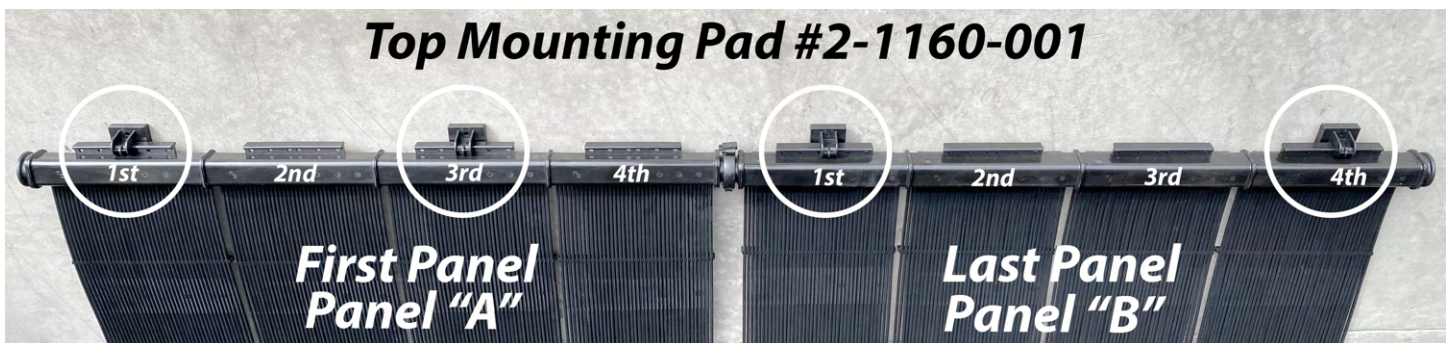

Fig. 17.1
2. Lay the first two panels so that the top edge of the top header is located at the chalk line. Referencing Fig. 17.1, slide a top mounting pad onto the 1st rail of the top header of the first panel (Panel "A"), and another top mounting pad onto the 3rd mounting rail of the same panel (Panel "A"). The mounting pad position of Panel "A" will continue for the rest of the row, until you get to the last panel (Panel "B"). For the last panel in the row (Panel "B"), place a top mounting pad at the 1st rail, and the second mounting pad on the 4th rail, so that each end of the row is secured at the very outside edge.
4. The last panel (reference Panel "B" in Fig. 17.1) should be secured with a top mounting pad on the 1st rail and the second mounting pad on the 4th rail. This secures the row at both outside edges.